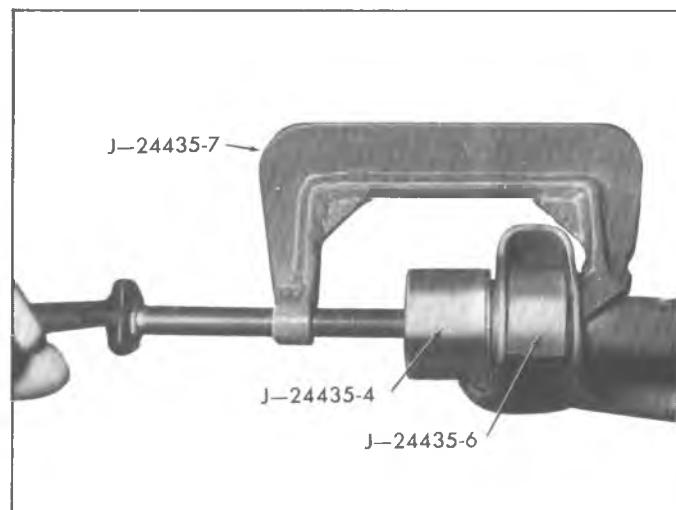

Fig. 33C—Lower Control Arm Rubber Bushing Installation
Bushing Installation (fig. 33C)
1. Install new bushings as shown in figure 33C using spacer J-24435-6, installer J-24435-4 and "C" clamp J-24435-7.
CAUTION: Be sure spacer J-24435-6 is in position as shown in figure 33C to avoid collapsing control arm during assembly.